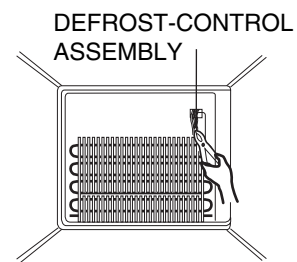

Figure 5
2. Separate the connector with the Defrost Control assembly and replace the Defrost Control assembly after cutting the Tie Wrap. (Figure 5)